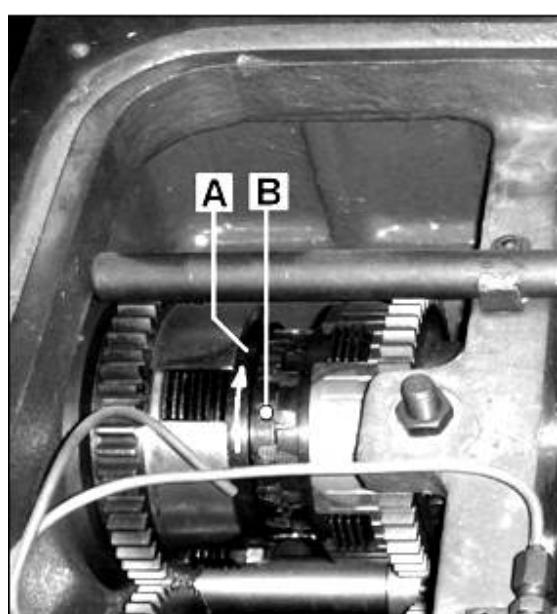

Fig 15
- Use a screwdriver and push in the index pin (B, Fig 15 and Fig 16) ...it is spring loaded.
- Rotate the clutch nut (A) to the next index.